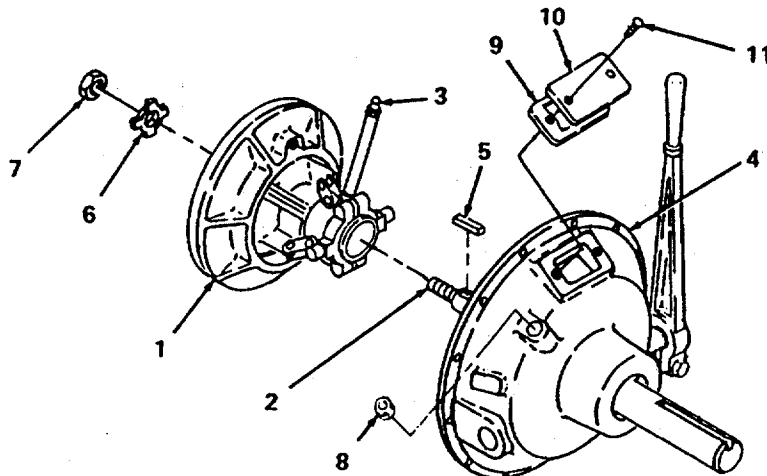

Figure 6-10. Installing Clutch Assembly in Housing.
- (4) Install clutch assembly in housing
- (a) Position clutch assembly (1, figure 6-10) on drive shaft (2) so that grease hose (3) aligns with mounting hole in housing (4).
- (b) Align keyways on drive shaft (2) and clutch body and install key (5).
- (c) Position grease hose (3) in mounting hole while sliding clutch assembly (1) onto drive shaft (2). Install lock plate (6) and nut (7).
- (d) Tighten nut (7) and bend locking tab on plate (6) to secure nut.
- (5) Install external housing components.
- (a) Install jam nut (8) on grease hose (3) and tighten.
- (b) Position gasket (9) and nameplate (10) on housing and install two screws (11).